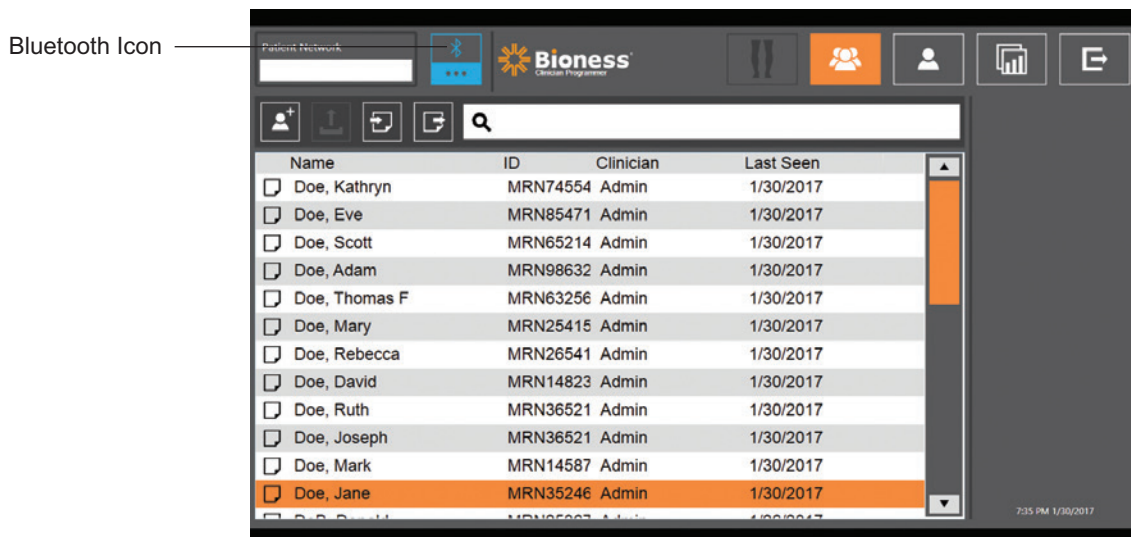

Figure 9-1: Bluetooth® Icon
3. The Patient Database Screen will appear. In the navigation, press the Bluetooth® icon. See Figure 9-1.